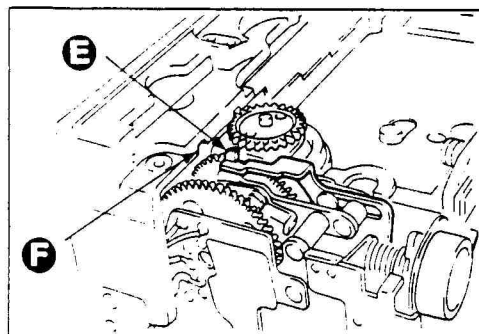

Fig. 4
3. For removing the hooks **C** and **D** of left and right covers, insert a thin plate (No.2 (-) screw driver) and push up them. They may easily be taken out. Meantime, when inserting a screw driver, exercise good care not to mar the cover. (See Fig. 3, Fig. 4)
**Note:** When removing the shutter substrate, remove the tip of the release lever (E) through the groove (F) of the body. (See Fig. 4.)